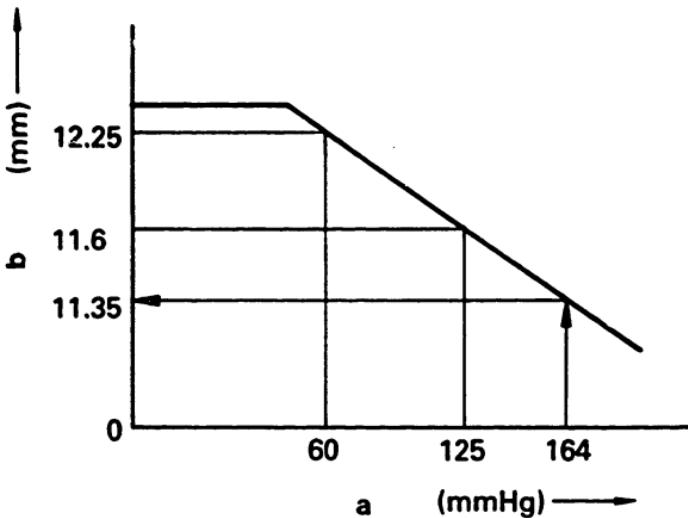

Fig. 89
- Obtain the control rack position value in accordance with the negative pressure plotted from the Service Data. In Fig. 89 for example, the control rack position value corresponding to a negative pressure of 164 mmHg is 11.35 mm.
3. Then divide the value obtained from Fig. 89 by the corrected value of 1.17, to obtain the actual control rack position corresponding to the altitude.